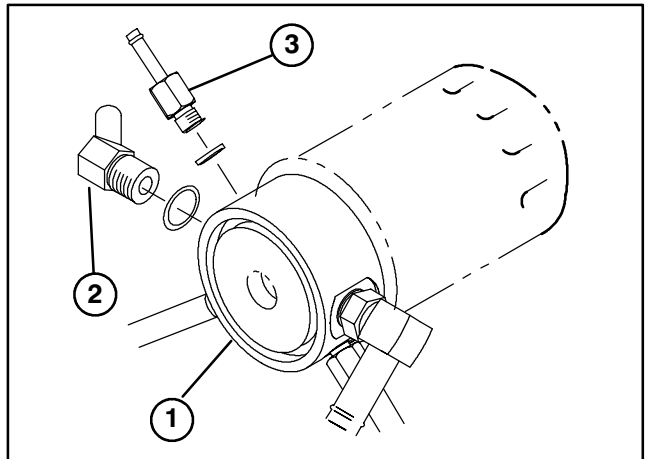
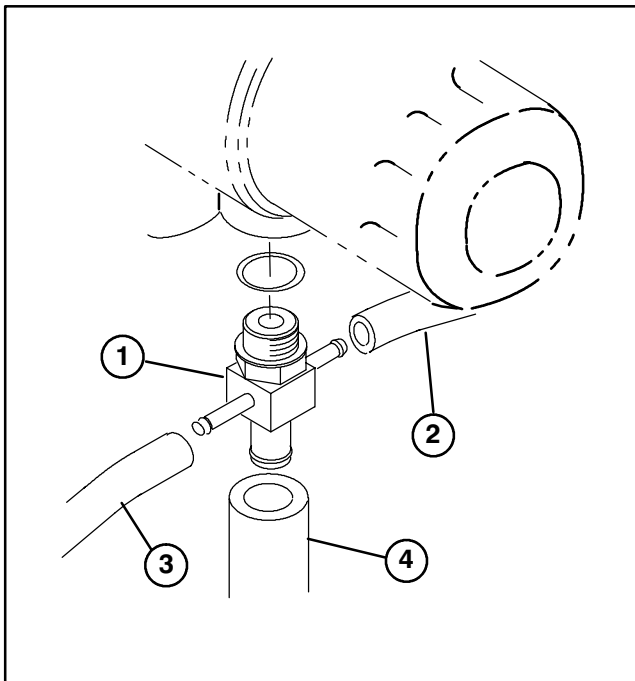

Figure 13
Figure 14
24. Install 45° fitting into transmission oil filter adapter. Fitting to be positioned so opening points toward manifold block (Fig. 13).
25. Install straight fitting into transmission oil filter adapter (Fig. 13).
26. Install hydraulic hose to 90° fitting on front of manifold block and straight fitting on oil filter adapter with (2) hose clamps.
27. Cut remaining hydraulic hose to a length of 8-3/4". Install hose to 90° fitting on bottom of manifold block and 45° fitting on oil filter adapter with (2) hose clamps.
28. Disconnect left and right lift cylinder hoses and return hose from cross fitting on bottom of transmission (Fig. 14).
29. Remove cross fitting from transmission (Fig. 14).